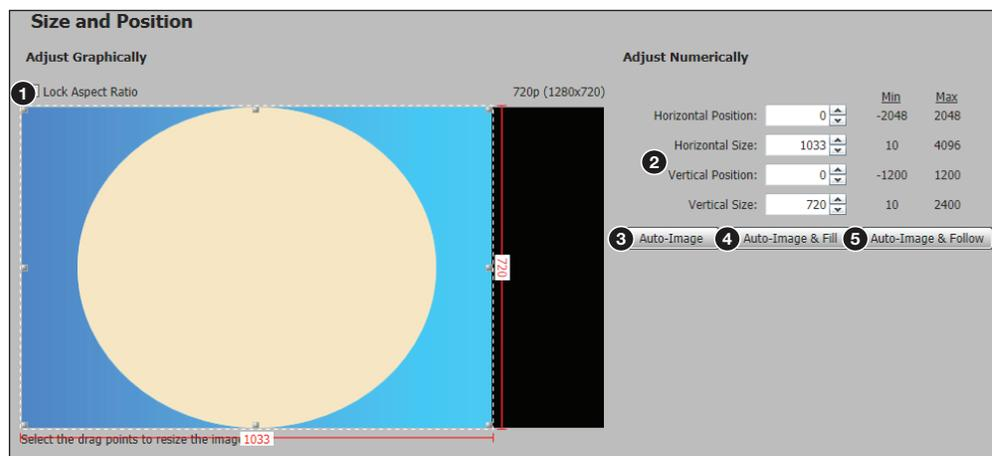

Figure 46. Size and Position Page
If desired, click the **Lock Aspect Ratio** checkbox (see figure 46, 1) to constrain proportions.
1. Click and drag the drag points of the sample image to resize the image within the designated space (defined by the black area in figure 46 above).
2. Click anywhere inside the sample image (see the blue rectangle with a circle inside in figure 46) and drag it anywhere within the designated space to reposition the image.
- Click the **Auto-Image** button (see figure 46, 3, on the previous page) to perform a one-time Auto-Image.